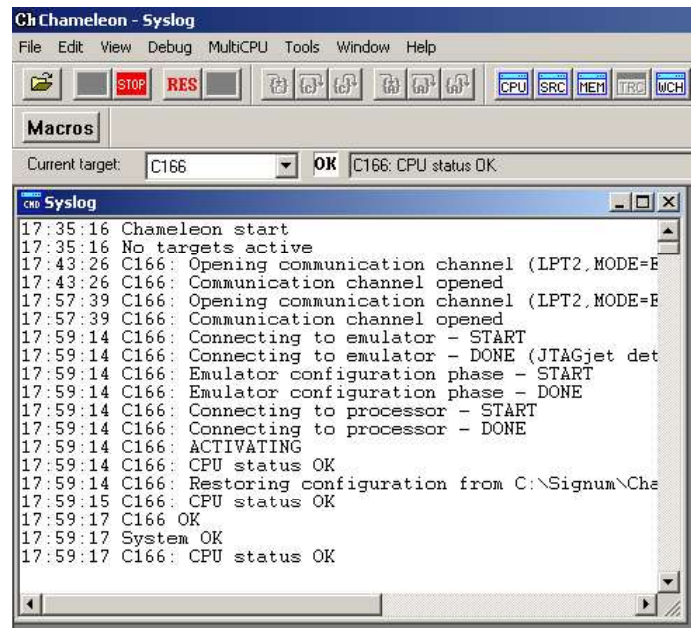

FIGURE 11 Typical system startup log.
- In the CPU selection dialog box, choose the CPU model you are using and click **OK** (Figure 11).